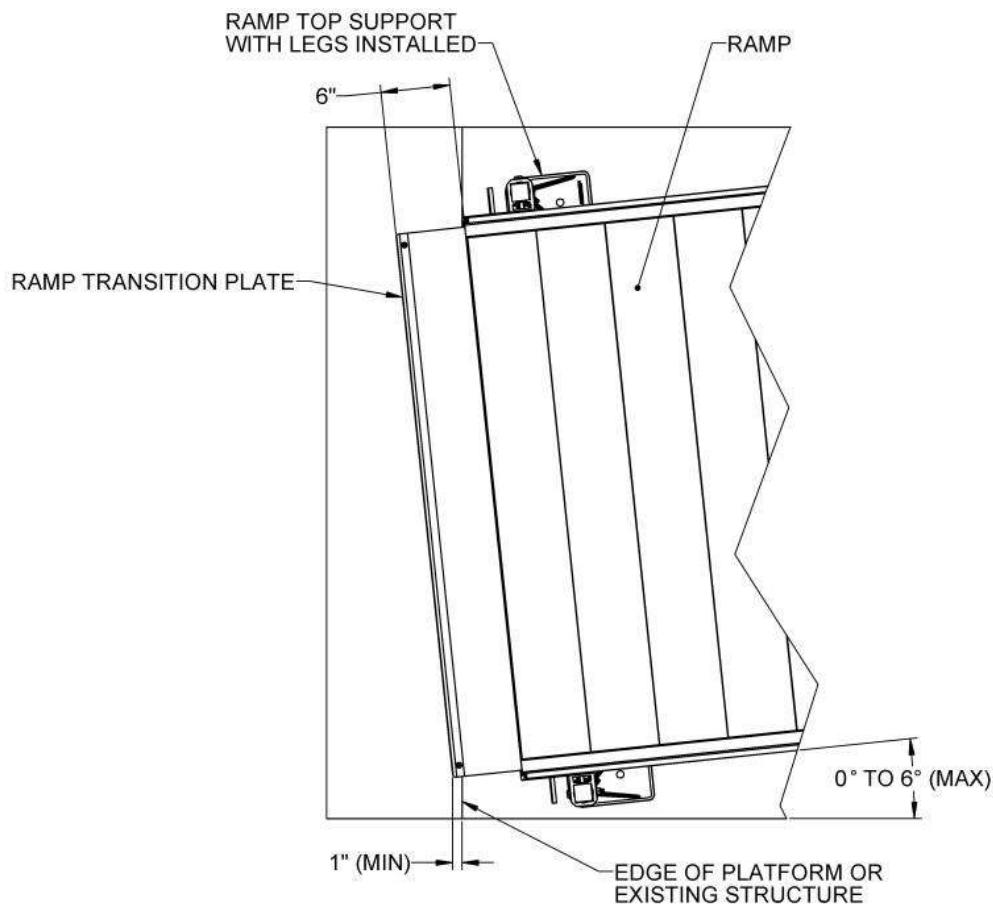

FIG. 3.13
- 3.7.1. Angles up to approximately 6-degrees can be accommodated. Refer to the appropriate sections in 'OPTIONAL EQUIPMENT' for installing a TRANSITION PLATE 48", 54" or 60" and RAMP SUPPORT TOP, and the previous sections for installing and adjusting ramp support legs (FIG. 3.13).